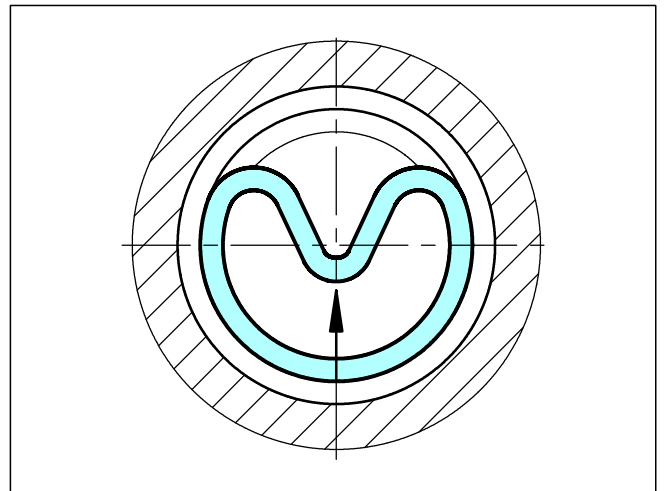

Figure 124 Inserting the seal ring into the closed groove
- Place the seal ring in compressed form into the groove and push against the O-Ring in the direction of the arrow (Figure 124)